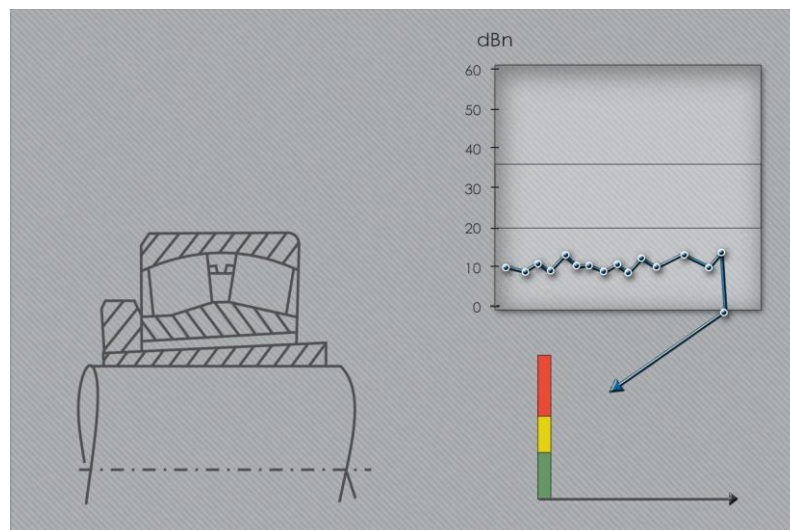

Figure 4-16. Irregular measurement results.
h) Irregular measurement results (Figure 4-16).